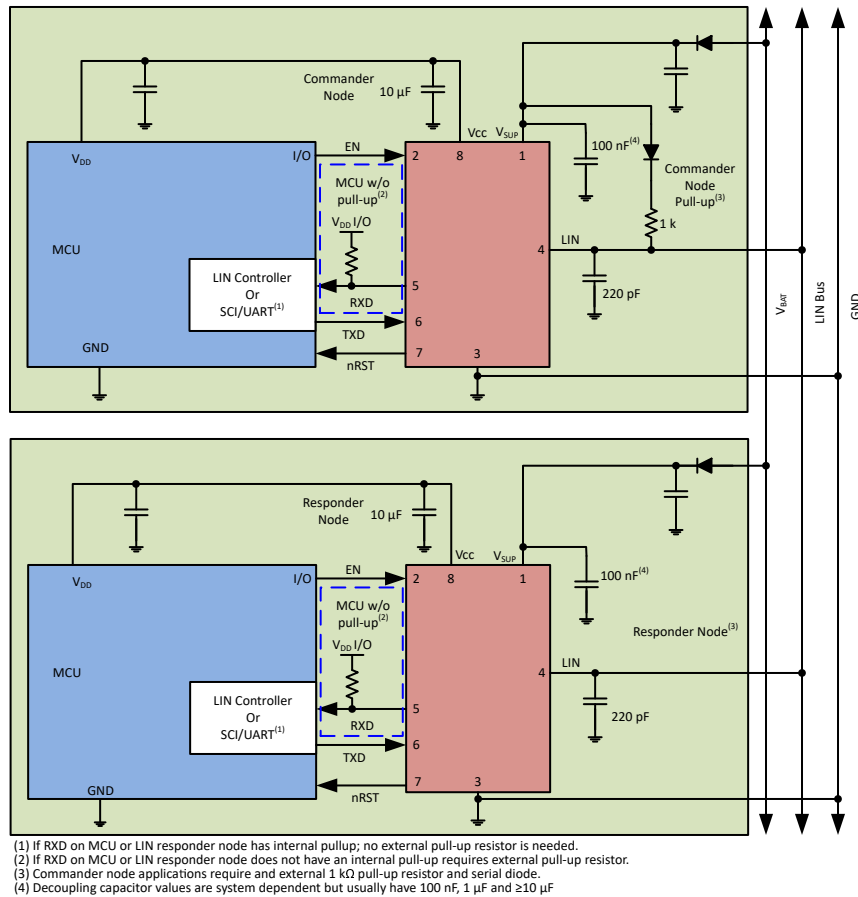

图 10-1. Typical LIN Bus
The device comes with an integrated 45 kΩ pull-up resistor and series diode for responder node applications. For commander node applications, an external 1 kΩ pull-up resistor with series blocking diode can be used. 图 10-1 shows the device being used in both commander and responder node applications.
- **Pin 2 (EN):** EN is an input pin that is used to place the device in a low power sleep mode. If this feature is not used, the pin should be pulled high to the regulated voltage supply of the microprocessor through a series resistor, values between 1 kΩ and 10 kΩ. Additionally, a series resistor may be placed on the pin to limit current on the digital lines in the event of an over-voltage fault.
- **Pin 4 (LIN):** This pin connects to the LIN bus. For responder node applications, a 220 pF capacitor to ground is implemented. For commander node applications, an additional series resistor and blocking diode should be placed between the LIN pin and the V_{SUP} pin. See 图 10-1